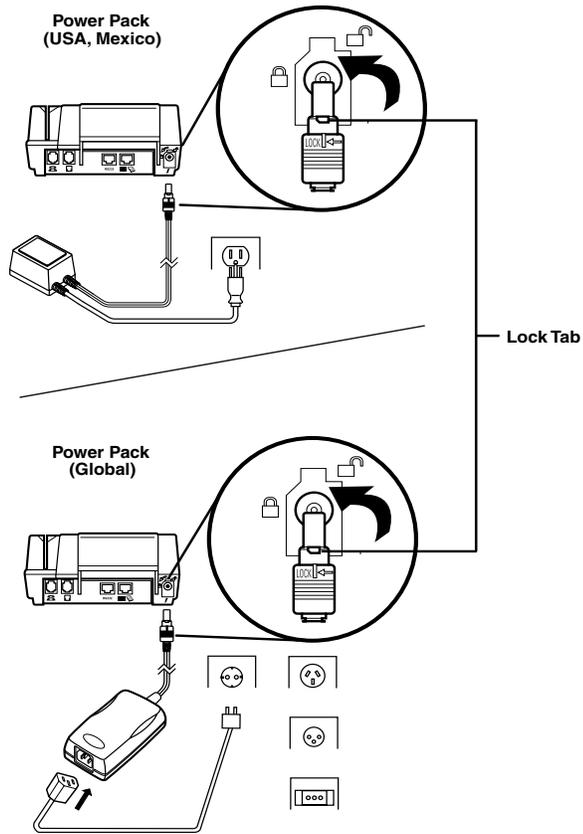

Figure 5 Omni 3300 Power Pack Connection
1. Insert the round barrel connector (Figure 5, page 12) into the power port (identified by the icon at right).